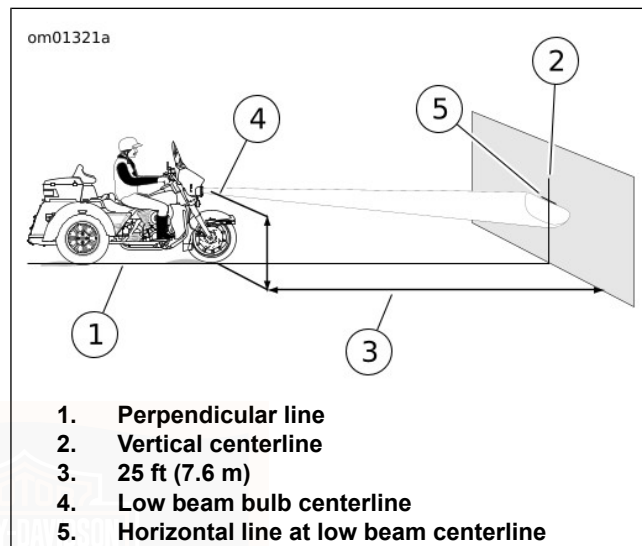

Figure 81. Headlamp Alignment: LED
4. See Figure 81. Park the motorcycle on a line (1) perpendicular to the wall.
6. Draw a vertical centerline (2) on the wall.